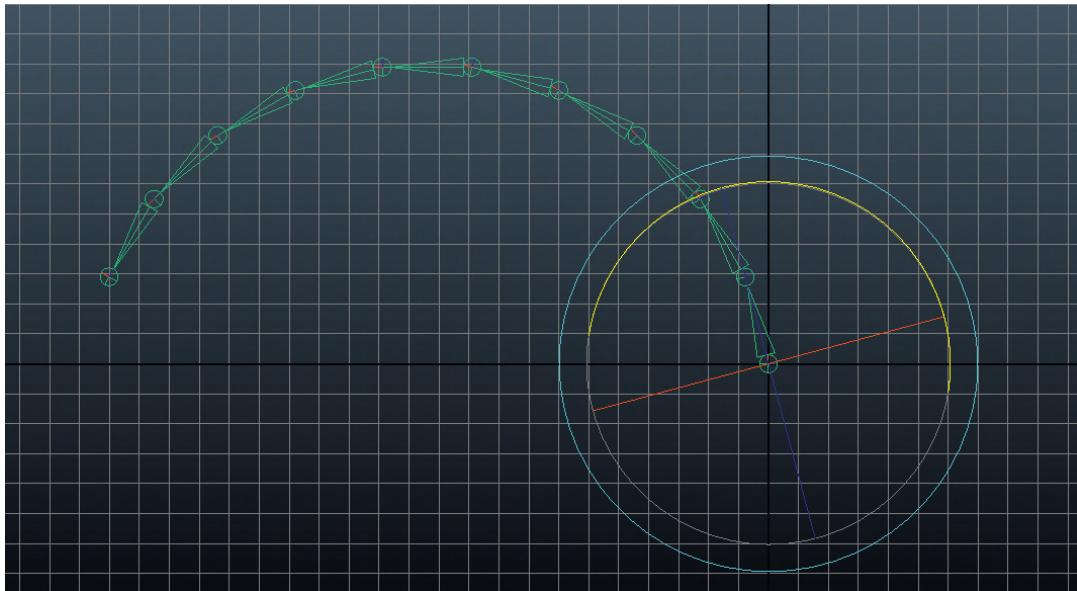

FIG 9.19 Rotating the joints in the opposite direction. This can either be done with the Rotate Tool, or by entering a positive value in the Channels Box.
Step 4: Set a keyframe for the joints rotated in the opposite direction. To do this, first move the Current Time Marker to frame 10. While all the joints are still selected either rotate using the Rotate Tool, or simply look at the Channel Box and make the Rotate Y value a positive value (if it was negative). Hit s to set another keyframe for all of these joints (Fig. 9.19).